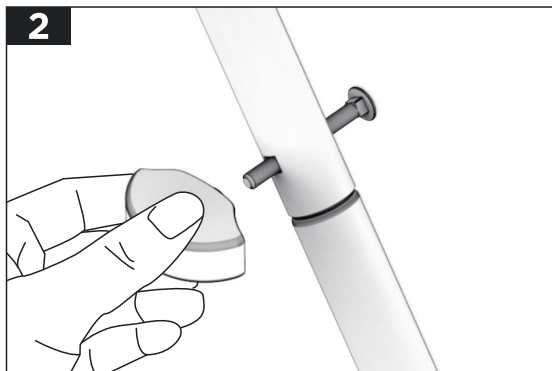

Fig. 3
- b. Align and insert the shaft-locking bolt through the aligned holes and into the end. Then insert the shaft-locking knob into the end of the bolt from the other side. (Fig.3)